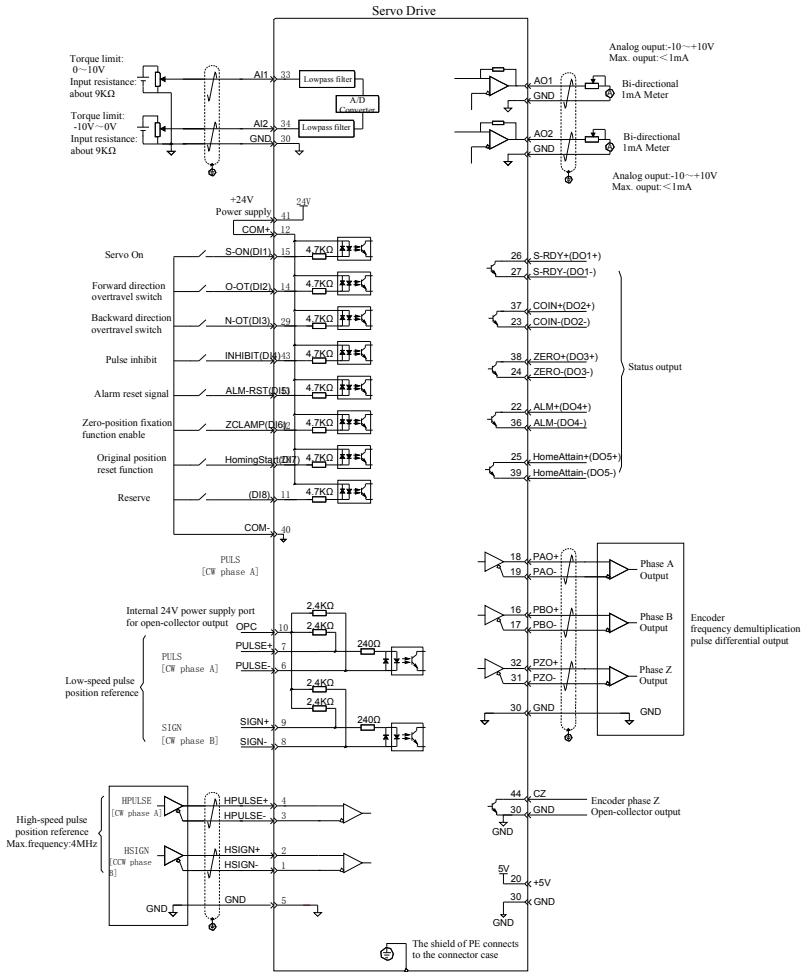

Fig 5-2 Position mode wiring diagram
(1) Connect the power supply of the servo main circuit and control circuit correctly, as well as the motor power line and encoder line. The servo panel displays “xxxx0” after power-on, indicating that the servo power supply is correctly wired and the motor encoder is wired correctly.
(2) Perform servo JOG test run by pressing the button to confirm whether the motor can run normally.
(3) Refer to Figure 5-2 for wiring instructions to connect the pulse direction input and pulse command input in the X5 terminal and the necessary DI/DO signals, such as servo enable, positioning completion signal, etc.
(4) Make settings related to the position mode. Set the DI/DO used according to the actual situation. Refer to [F02/F03 Group] for the function code. In addition, if necessary, you need to set the functions such as return-to-origin and crossover output. For details, please refer to the detailed product manual.
(5) The servo is enabled, and the position command is issued by the upper computer to control the rotation of the servo motor. First, let the motor rotate at a low speed, and confirm whether the rotation direction and the electronic gear ratio are normal, and then adjust the gain. Please refer to the figure “5-18 General Debug Flow Chart”.